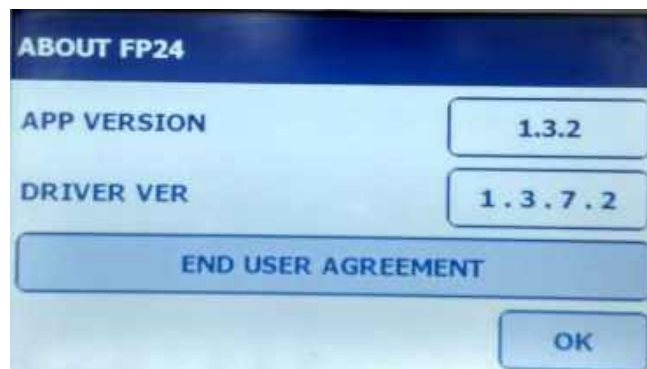

Figure V-21: About FastPrep-24™ 5G
1. Press the [ABOUT FP24] button. The FP-24 5G will display the current application (software) and driver (firmware) versions \(Figure V-21\).